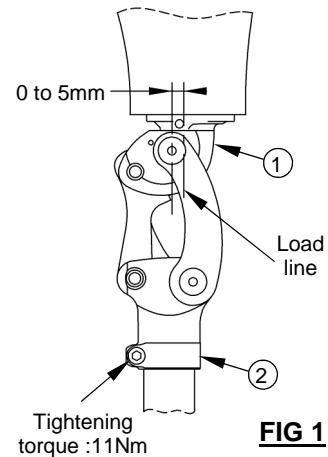

FIG 1
B) CONNECTIONS (Fig.1)
C) ALIGNMENT (Fig.1)